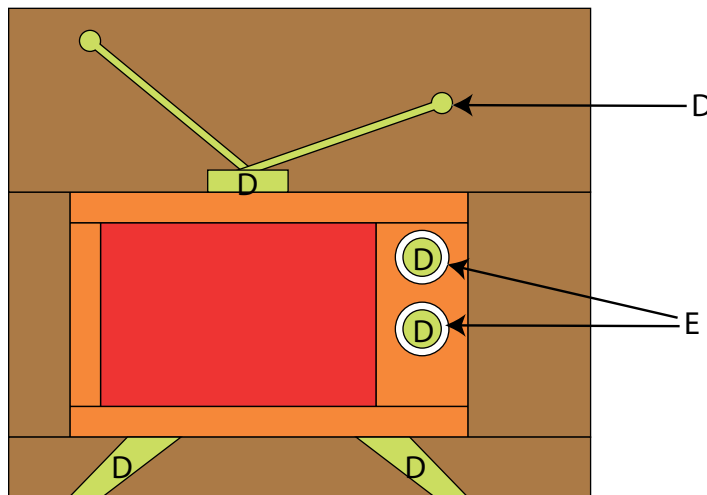

Fig. 3
5. Refer to the Figure 3 to arrange and press the Fabric D antenna base, (2) Fabric D antennae, (1) Fabric D left leg, (1) Fabric D right leg, (2) Fabric D knobs and (2) Fabric E outer knobs onto the C-Block.
6. Finish the raw edges of each shape with a decorative stitch such as a buttonhole or satin stitch to make (1) TV Block One.